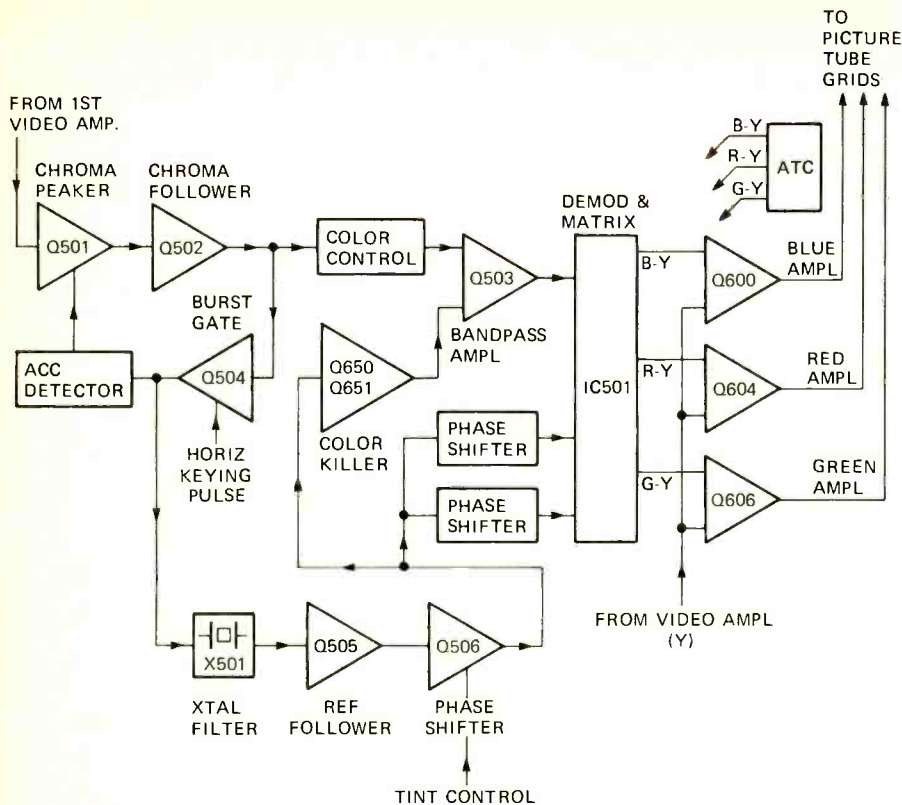
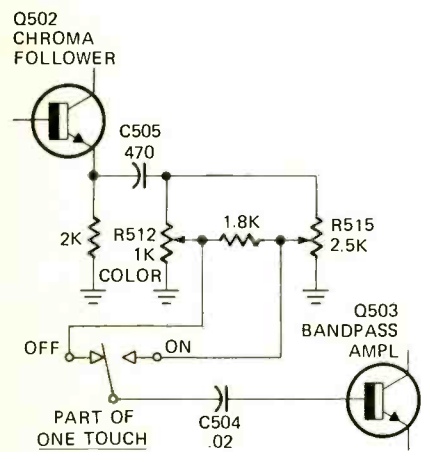
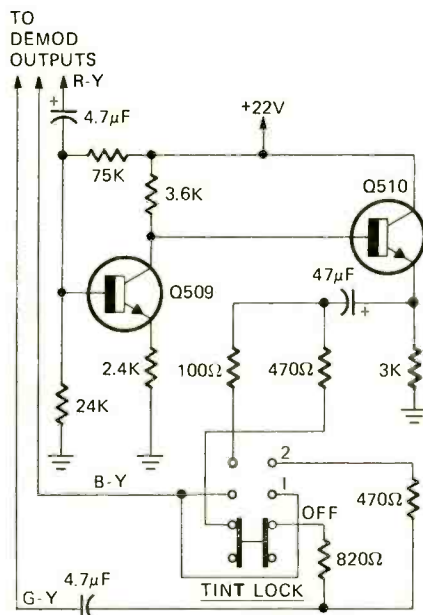

FIG. 7—GE COLOR PROCESSOR is used in many '73 chassis. The "One-Touch" circuit includes TINT, COLOR controls and the TINT LOCK circuit.
FIG. 8—CLOSE-UP OF COLOR CONTROL used in GE JA chassis. This is a part of the "One-Touch" color system.
FIG. 10—TINT-LOCK CIRCUIT changes the color difference matrixing in the right ratios to reduce the Q component in GE color sets.
General Electric—The "*One Touch Color*" system is featured on their JA 10- 16- and 19-inch sets and the MA 25-inch modular chassis. Fig. 7 is the block diagram of the JA one-chip (IC) color processor with Figs. 8, 9 and 10 showing the color control, tint control and Tint Lock circuits. In the GE system when *One Touch* is turned on, a neon lamp is lit, the color and tint ranges are narrowed and apc is enabled. The tint correction scheme called *Tint Lock* is activated by a separate switch with two degrees of correction selectable. The color control is prejudiced by the setting of the 2.5K pot in Fig. 8 when *One Touch* is activated. The color control now has a more limited range and while the control is going to be closer to normal setting if misadjusted, some range of control is left in the user's hands. The tint control works similarly with a reduced range by switching some resistors. Incidentally note that this receiver uses a RGB system where the luminance or Y signal is combined with the color difference signals ahead of the picture tube. The *Tint Lock* system works by switching in a two stage matrixing amplifier as shown in Fig. 10. This changes the color difference matrixing in the right ratios to reduce the Q component.